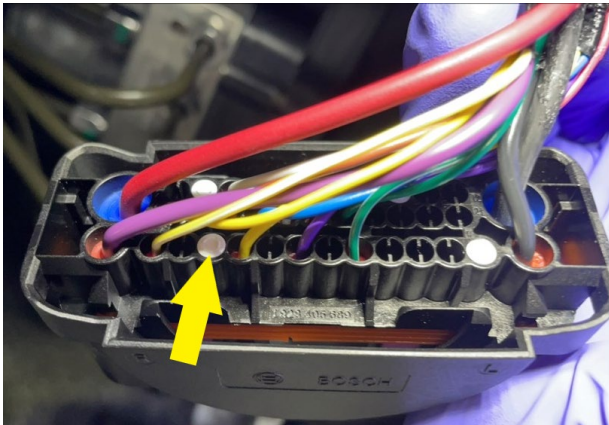
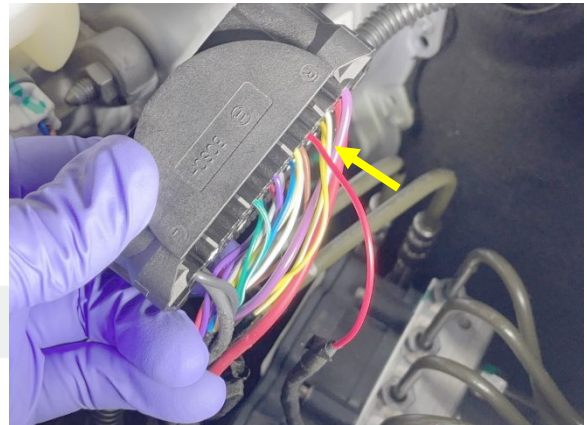

Figure 23
Figure 24
16. Remove the plug from receptacle 28 of the HCU connector (Figure 23), and insert the larger terminal of the overlay wire into the receptacle (Figure 24).